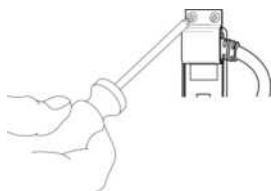

Figure 7.1 Remove the power cord guard
To replace the mains (AC) electrical fuses, refer to figures 7.1 to 7.3 and do the following: